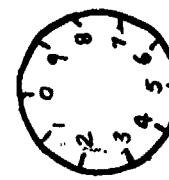

FIGURE 1
- 3) With a marking pen, number two of the small circles as in figure 1.